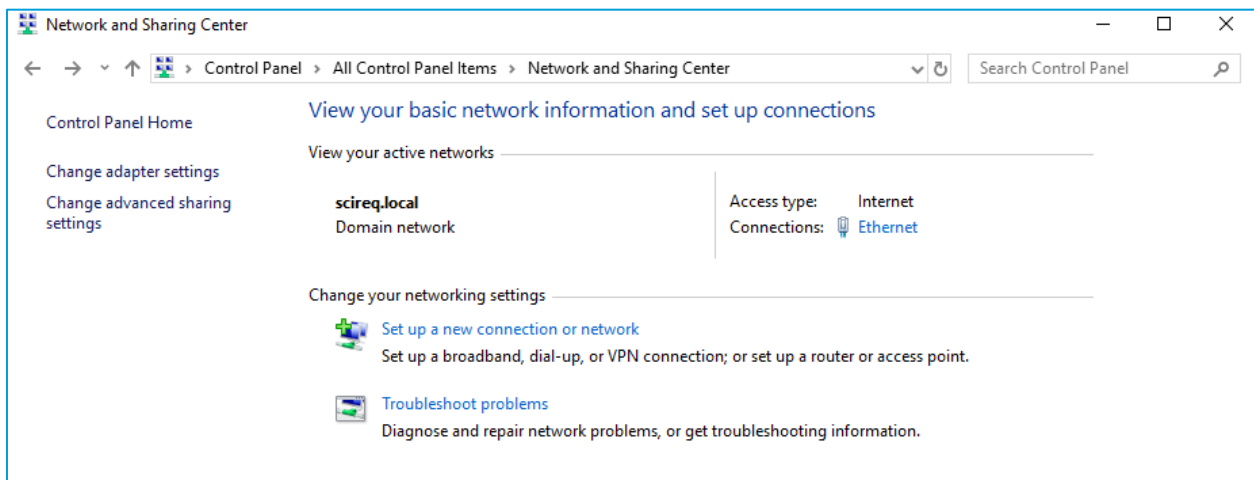

Figure 3-1: Network and Sharing Centre page of the Control Panel
Open the Network connections of the host computer (Figure 3-1). This is located under START->Control Panel -> Network and Sharing Center-> Change adapter settings. Depending on the number of Ethernet cards available in the computer, more than one network connection may be displayed
- » Open the Control Panel Network: Start -> Control Panel->Network and Sharing Center (Figure 3-1)